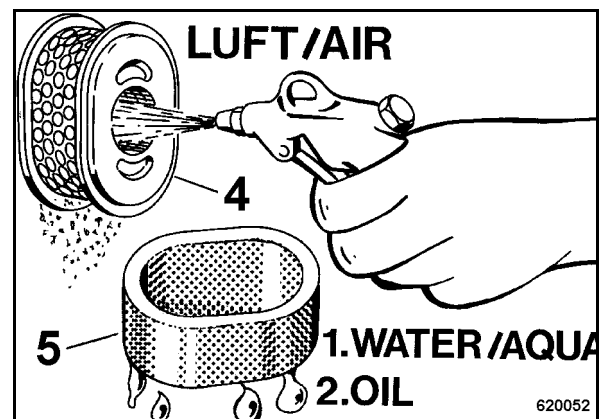

Fig. 36
- Clean the paper insert (4) (Fig. 36) carefully by light banging or blow it carefully out from inside to outside with dry, clean compressed air (max. 2 bar).
- Clean the foam insert (5) in warm soapy water, rinse it and let it dry thoroughly.